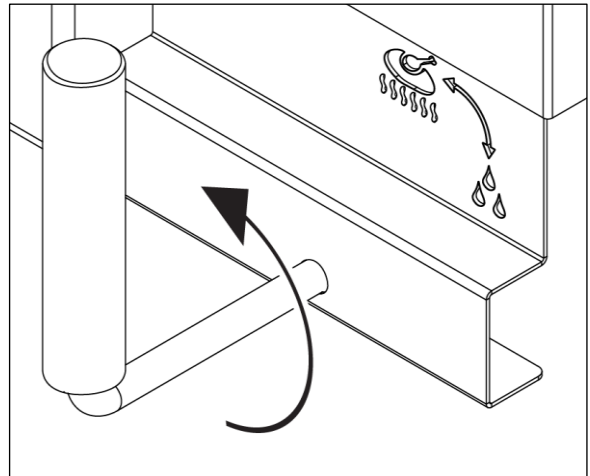

Figure 4-1
2. Make sure the Main Drain Valve Handle is set to Cook  as shown in Figure 4-1.